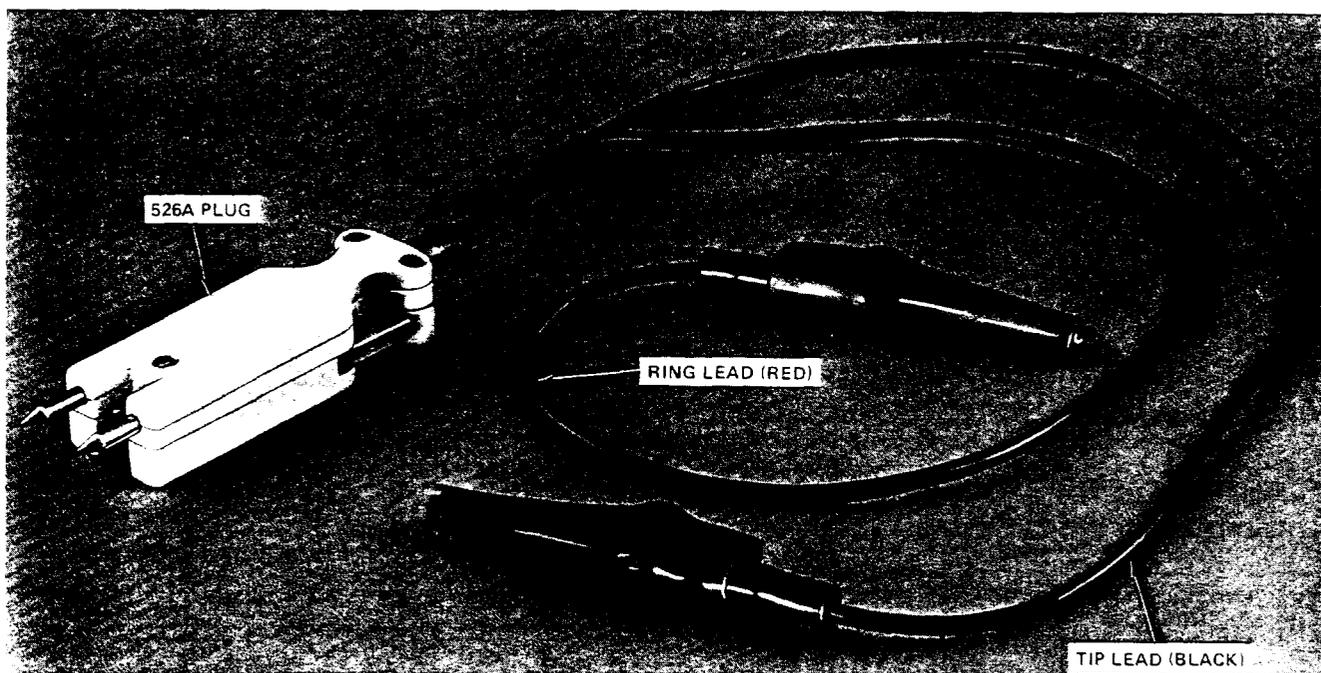

Figure 15. P2FL Test Cord
**8.03** The P2FL test cord (Figure 15) is used to short the tip and ring inserting the plug end into the test points of a 4C-type plug-in unit on the 407-type connector.